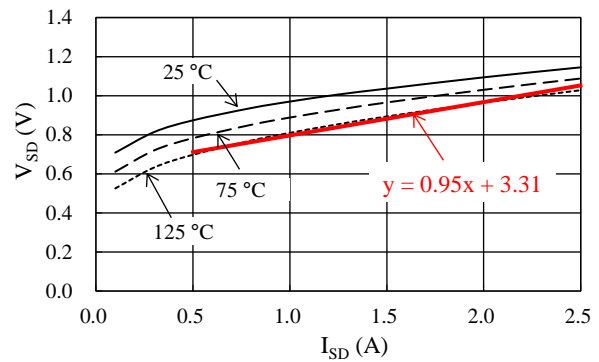

Figure 13-2. Linear Approximate Equation of  $V_{SD}$  vs.  $I_{SD}$  Curve
Steady-state loss in the body diode of a power MOSFET can be computed by using the  $V_{SD}$  vs.  $I_{SD}$  curves, listed in Section 14.3.1. As expressed by the curves in Figure 13-2, a linear approximation at a range the  $I_{SD}$  is actually used is obtained by:  $V_{SD} = \alpha \times I_{SD} + \beta$ . The values gained by the above calculation are then applied as parameters in Equation (3), below. Hence, the equation to obtain the body diode steady-state loss,  $P_{SD}$ , is: